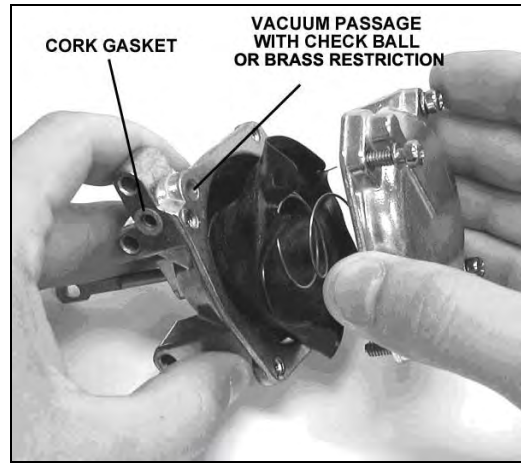

Figure 18
5. Gently remove the cover. Take care as not to tear the diaphragm or loose the check ball (Figure 18). **NOTE: Your secondary housing may have a brass restriction inserted where the check ball should be. If that is the case, please disregard all references to the check ball as yours does not use a check ball.**